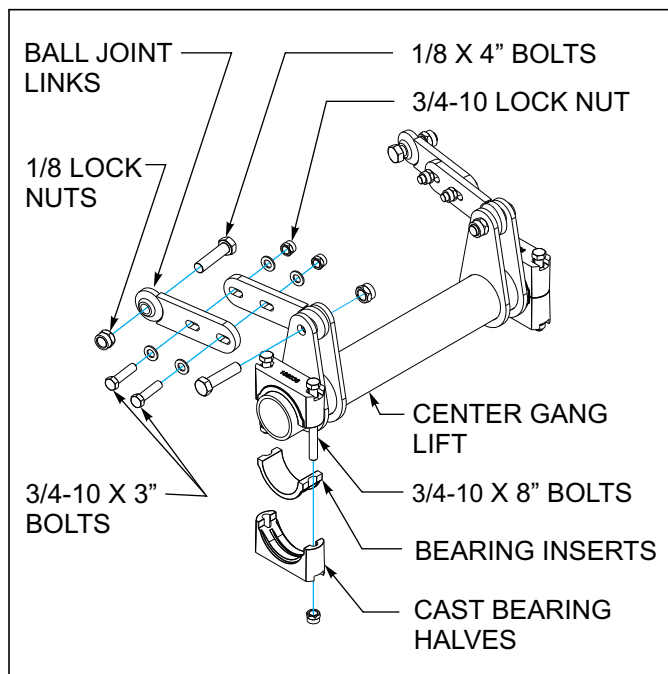

Figure 3-14: Center Gang Lift
4. Assemble the ball joint links to the center gang lift and to the center gangs as shown in (See **Figures 3-14 & 3-16.**) Use 1-8 x 4" long bolts and lock nuts to secure the ball joints to the center lift and the gang assemblies. Use 3/4-10 x 3" long bolts, hardened washers, and lock nuts to assemble the links together. Assemble links as shown with the front link to the inside.